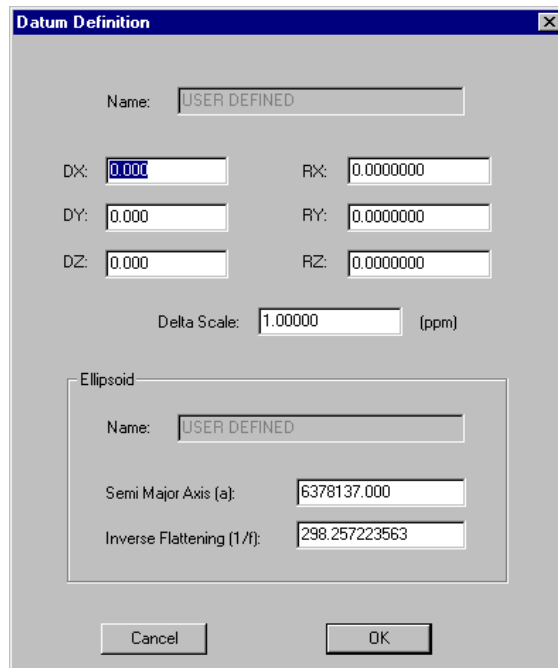

Figure 2.11. Datum Definition Dialog Box
2. Click the Datum Definition... to open the Datum Definition dialog box (Figure 2.11)